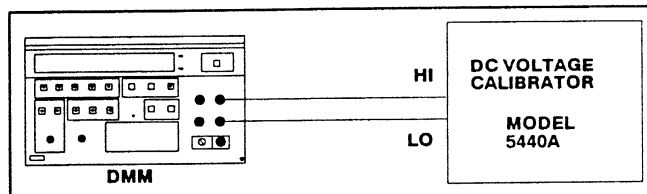

Fig. 2-1. Connections for DC Volts Check.
- Connect the DMM to the DC voltage calibrator as shown in Fig. 2-1.